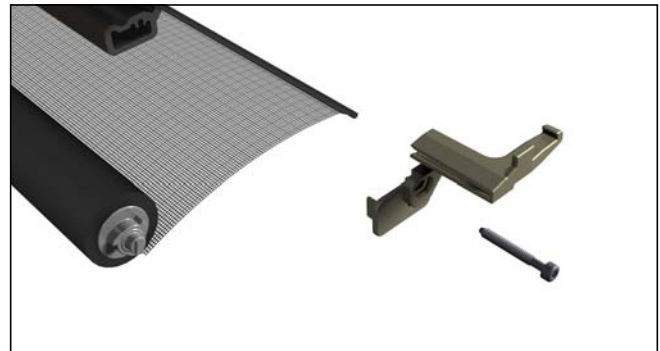

Figure 33
6. Remove the glide block from one end of the pull bar by removing screw. See figure 33.